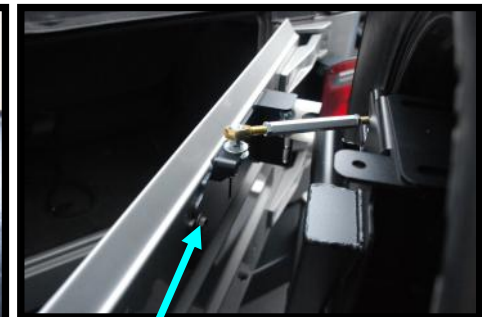

Figure 2
Step 4 – Install the supplied tailgate bracket using 3 bolts that were previously removed from stock tire carrier (Do Not Tighten Yet). Install Rod End Fitting using 3/8” flat washers & 3/8”-24 Locking Hex Nut & tighten. Also install the white plastic Alignment block using two-5/16-18” bolts, four-5/16” flat washers & two-5/16-18” hex lock nuts (Do Not Tighten Yet). See **Figure 2 – Photo May Vary By Model**